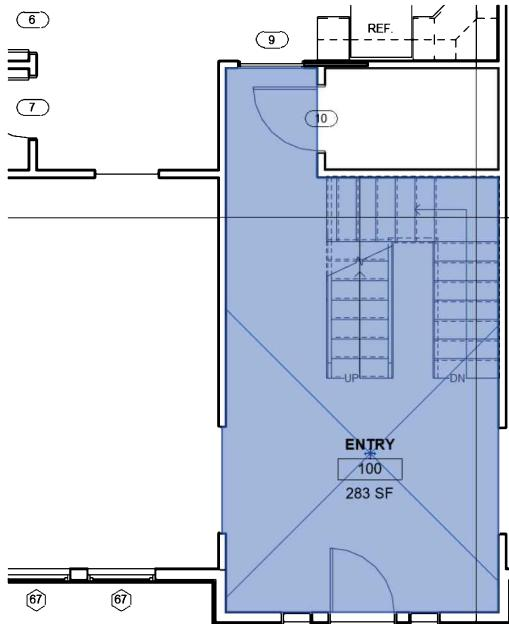

FIGURE 13-1.2B Room confined to entry
The room element is now confined to the entry area as shown in Figure 13-1.2b.
- Now click on the room number to change it; enter **100** (Figure 13-1.2b).